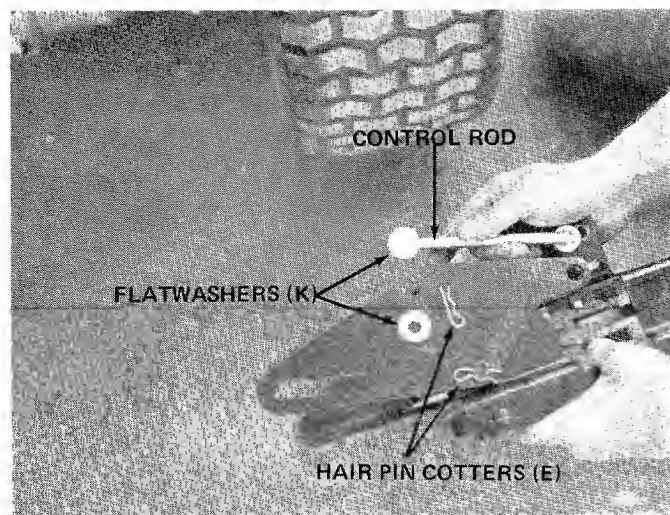

FIGURE 15
- ← 13. Assemble the other linkage bracket (AG) to the other side of idler assembly (AJ). Secure with hair pin cotter (E). Place flat washer (K) over control rod. Next, place control rod up through linkage bracket. Secure with another flat washer (K) and hair pin cotter (E). See figure 15.